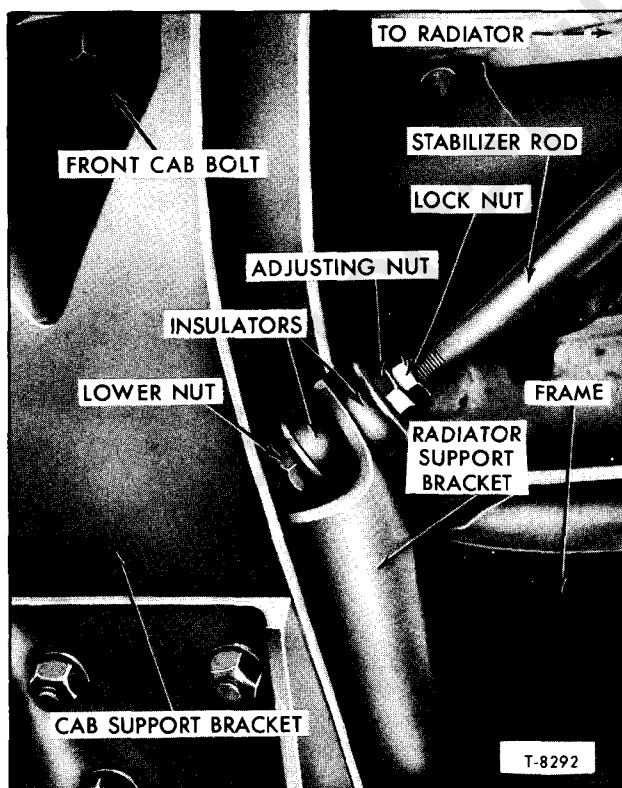

Figure 1—Stabilizer Rod (Models HC, JC, HH, and JH90; DC, FC90 with NTC 335 Engine)
The stabilizer rod and components as shown on page 13-3 in Service Manual ST135-70 are common to all models except Models HC, JC, HH, JH-90 and FC, DC-90 with NTC 335 engine which are shown in figure 1. The insulators and attaching parts as shown in figure 1, are located at the lower (frame) end instead of at the upper (radiator) end.
3. Install bolt, washer, and nut on each radiator stabilizer rod (fig. 1). Tighten nut on each rod to 50 to 60 foot-pounds torque.